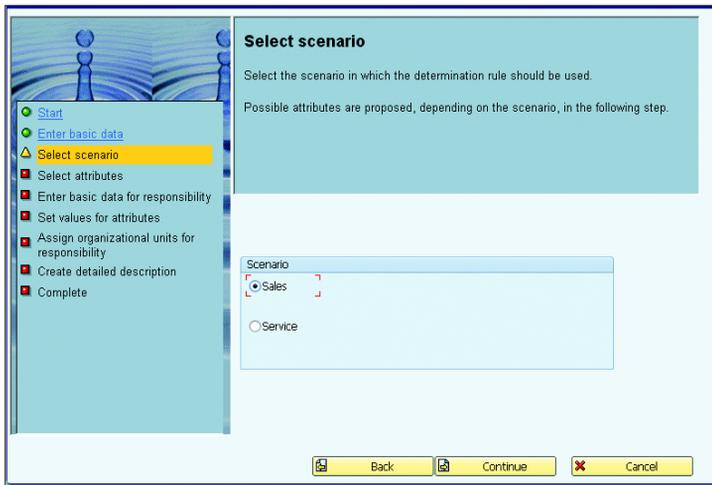

Figure 2.10 Organization Determination from Responsibility Category – Select Scenario
3. On the SELECT SCENARIO screen that appears, select the SALES scenario because you're determining the sales organization in the transaction (see Figure 2.10). Click CONTINUE.